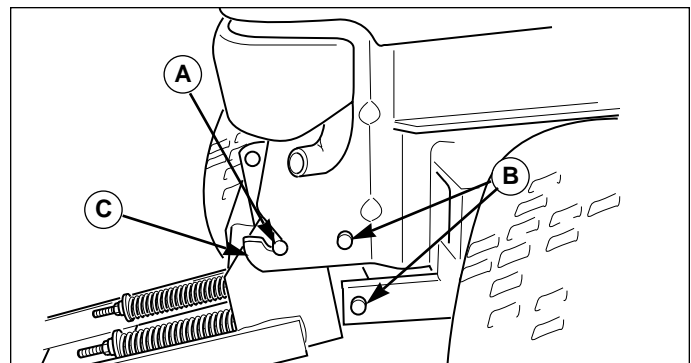

Figure 40. Attach Dozer
2. See Figure 40. Attach the dozer to the tractor by resting the dozer pins (A) on the front attachment hooks (C).
3. See Figure 40. Install two 5/8 x 1-5/8 clevis pins (B) on both sides and secure with safety clips.